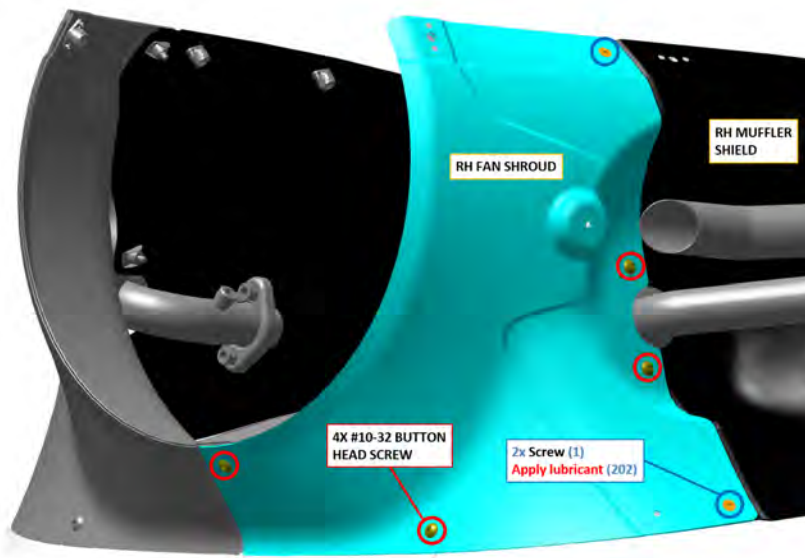

FIGURE 16-8
2. Install RH fan shroud. (See Figure 16-8.)